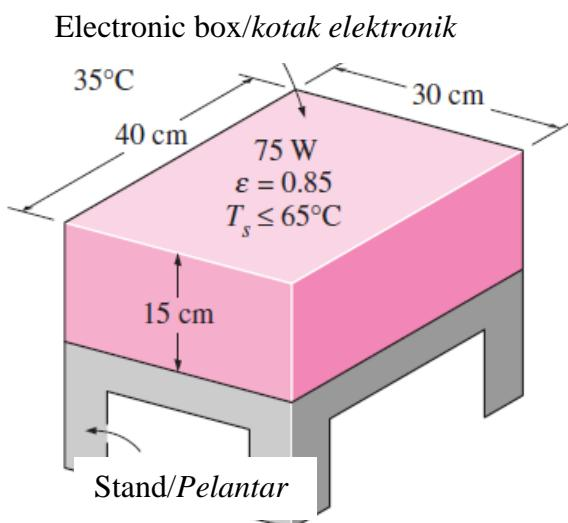

Figure 4: Electronic box with stand
- (c). Consider a sealed electronic box which has dimensions $15\text{ cm} \times 30\text{ cm} \times 40\text{ cm}$ placed on top of a stand in a room at 35°C , as shown in Figure 4. The box is painted, and the emissivity of its outer surface is 0.85. If the electronic components in the box dissipate 75 W of power and the outer surface temperature of the box is not to exceed 65°C , determine if this box can be cooled by natural convection and radiation alone. Assume the heat transfer from the bottom surface of the box to the stand to be negligible.